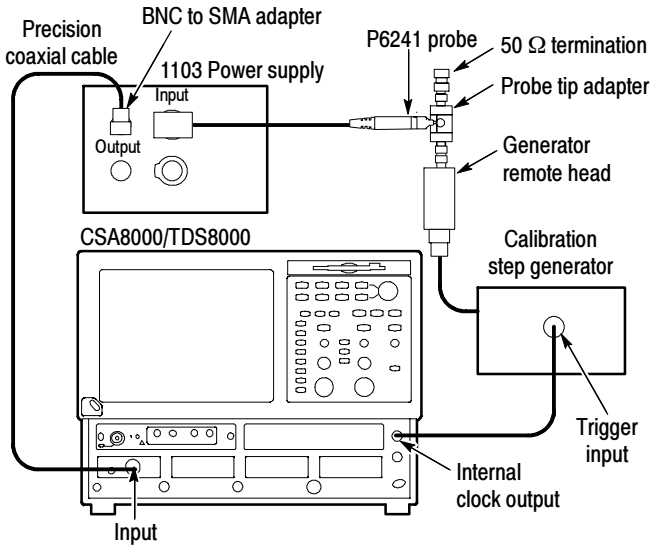

Figure 17: Test system and probe rise time setup
The following steps are for assembling the test setup that includes the probe, as shown in Figure 17 on page 52. The system and probe rise time (t_{s+p}) that you measure in step 12 is used to calculate the probe rise time (t_p) in step 13.
11. Adjust the oscilloscope horizontal and vertical position controls to display a signal similar to that shown in Figure 17.